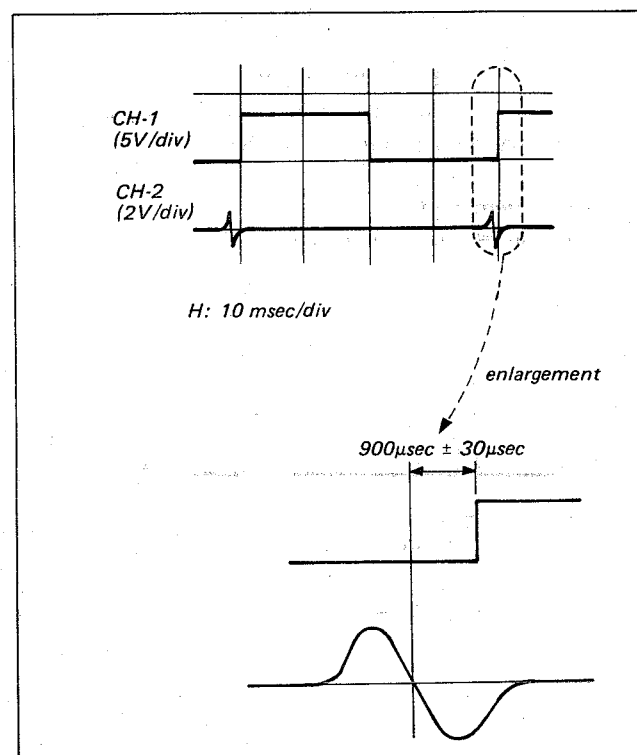
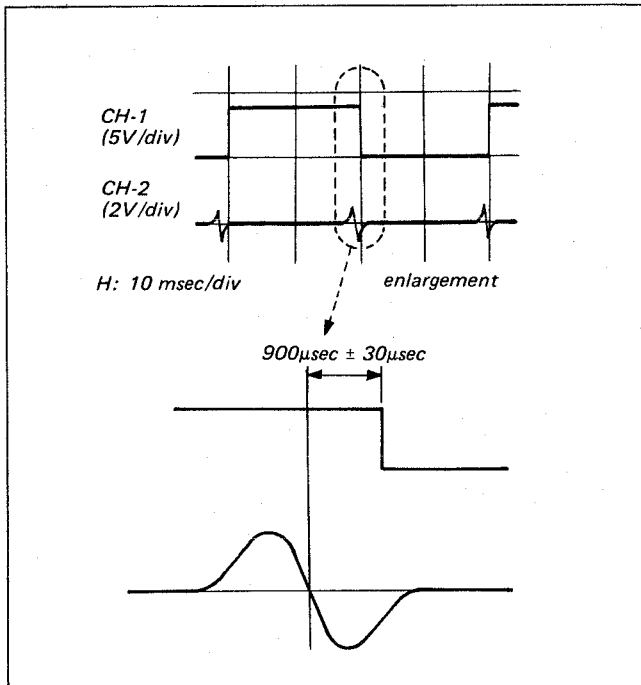

Fig. 5-8. RF switching position adjustment (1)
Fig. 5-9. RF switching position adjustment (2)
- i) Adjust to $900 \mu\text{sec} \pm 30 \mu\text{sec}$ with RV302. (See Fig. 5-8.)
- ii) Change connection of CH-2 only to Pin ③② of IC301.
- iii) Adjust to $900 \mu\text{sec} \pm 30 \mu\text{sec}$ with RV301. (See Fig. 5-9.)